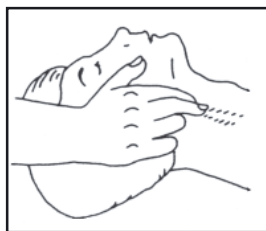
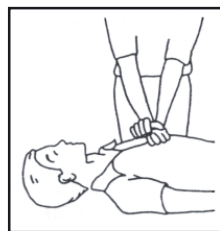
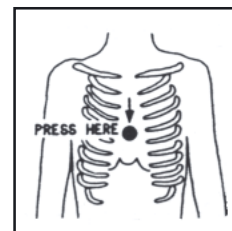

Figura 3
Figura 4
Figure 5
- Check carotid pulse (**Figura 3**); if pulse is absent, begin artificial circulation(**Figura 4**) depressing sternum 1 1/2" TO 2" (**Figure 5**).